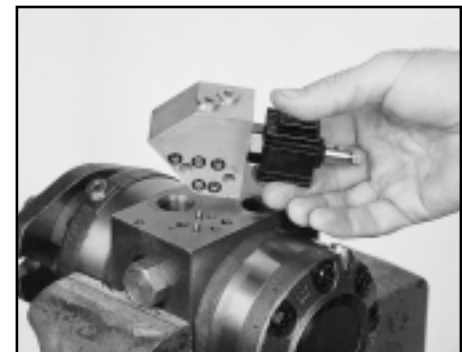

Figure A23
3. Place solenoid valve assembly on the center block, insert bolts and torque to 15 ft lbs. SEE FIGURE A23